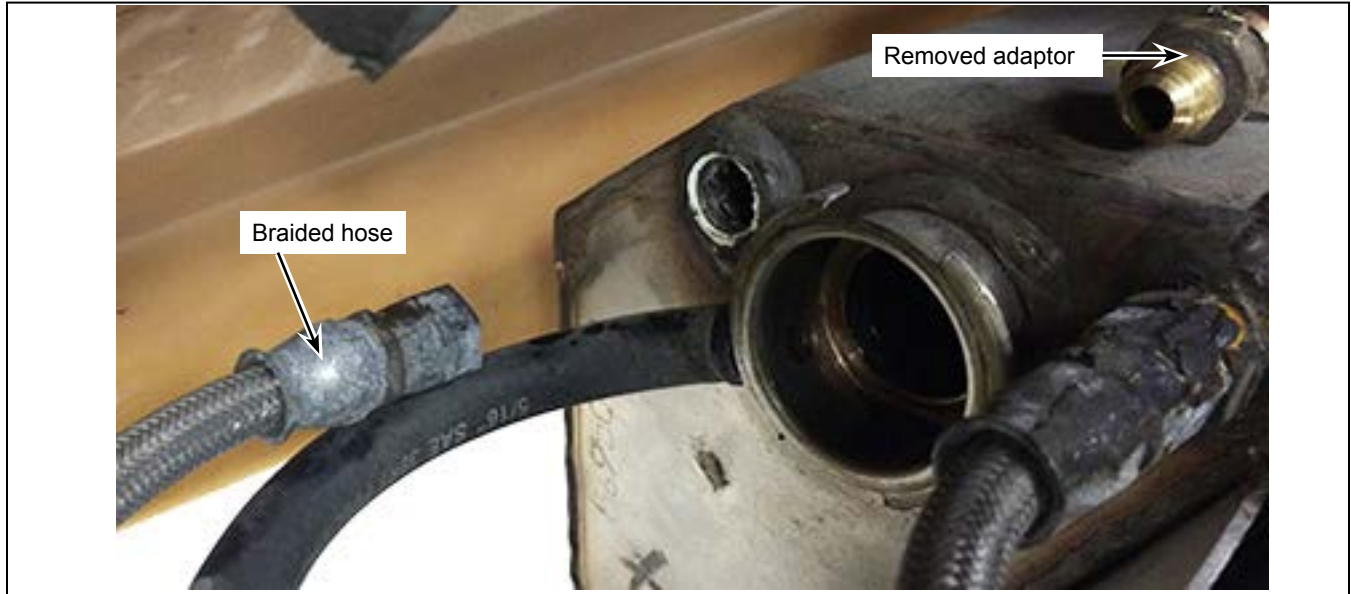

Figure 4 - Braided Hose Disconnected and Adaptor Removed
- 1.9. Disconnect the supply hose from the adaptor of the surge tank. Remove and discard the adaptor. See Figure 4.